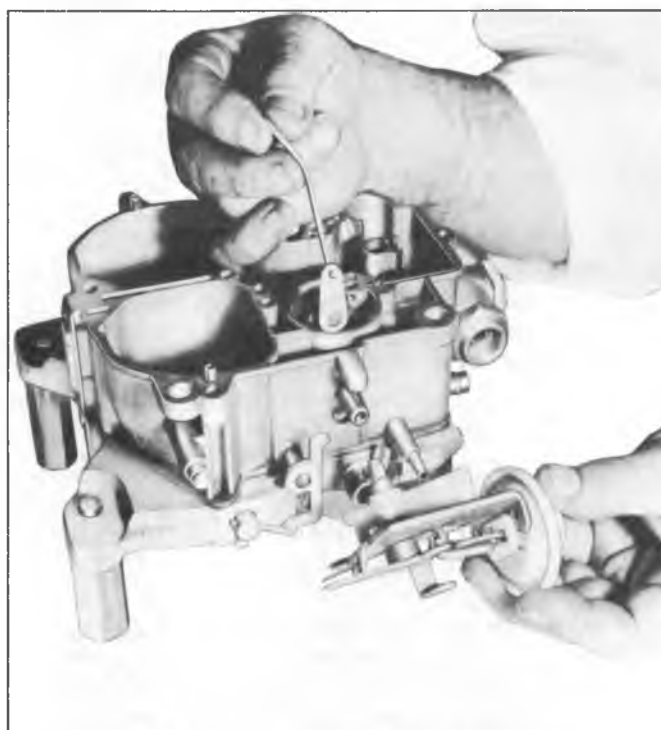

Fig. Q5--Installing Choke Bracket Assembly
5. Connect choke rod to choke rod actuating lever (plain end) then holding choke rod, with grooved end pointing inward, position choke rod actuating lever in well of float bowl and install choke assembly engaging shaft with hole in actuating lever (fig. Q5). Install retaining screw and tighten securely. Remove choke rod from lever for installation later.